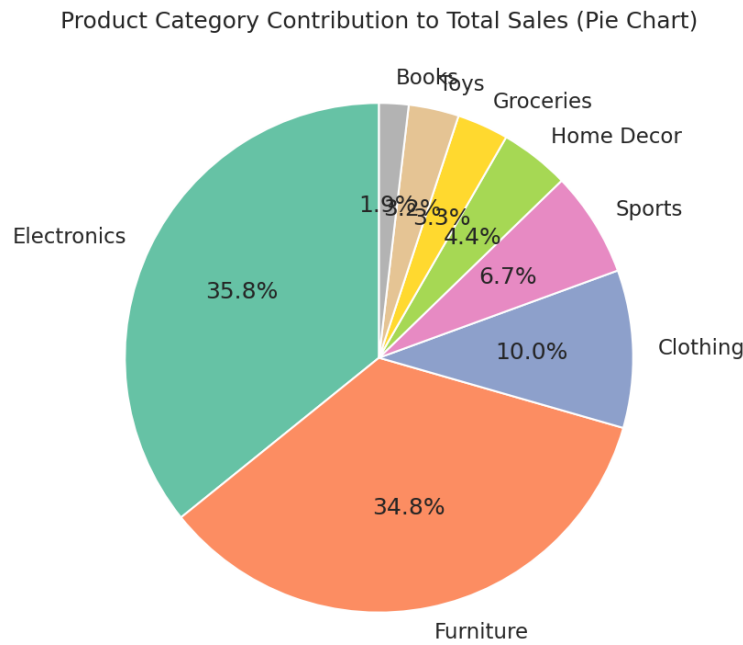
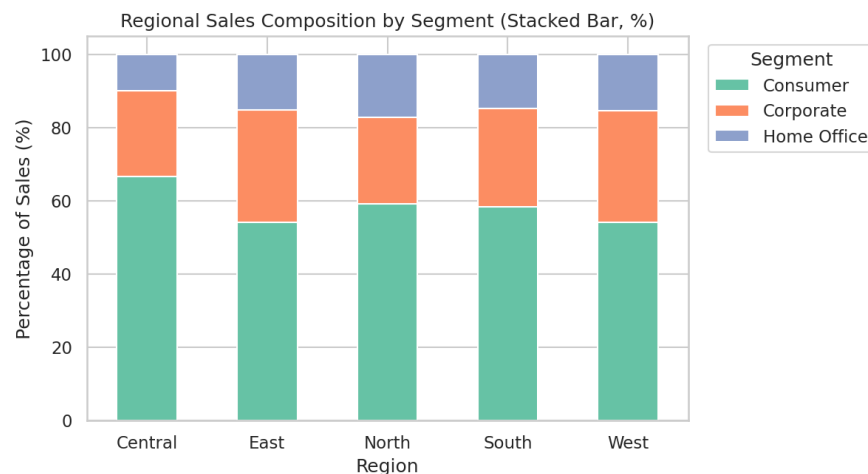

Figure 10: Product category contribution to total sales (Pie Chart)
Figure 11: Regional sales composition by segment (Stacked Bar, %)
- Every chart uses Cartesian coordinates except the pie chart (Figure 10), which switches to a polar/angular system that suits whole-to-part comparisons of a small number of categories.
Pie versus bar: a pie chart is intuitive for a single-dimension, small-category breakdown - 8 categories, as in Figure 10 - but it doesn't scale well and struggles to encode a second grouping variable. Stacked bar versus treemap: I went with a stacked bar chart (Figure 11) over a treemap for the region-by-segment breakdown, since it lets you compare percentages across regions on a shared, aligned baseline directly, whereas a treemap's area-based encoding is much harder to judge precisely. For this dataset, the stacked bar chart ended up being the most broadly useful proportion technique overall, simply because most proportion questions here involve two grouping dimensions - region and segment - rather than just one.